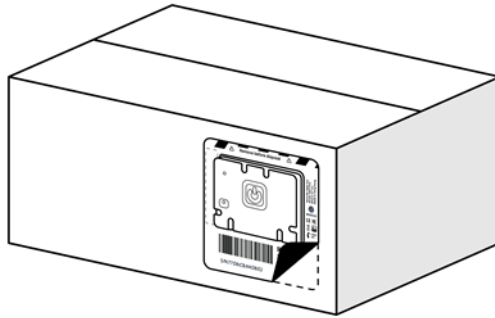

Fig. 6.2.1: Removing the device from the cargo
1. Pry up the corner of the device and peel the device off the cargo surface (Fig. 6.2.1). It should be removed from the cargo entirely.